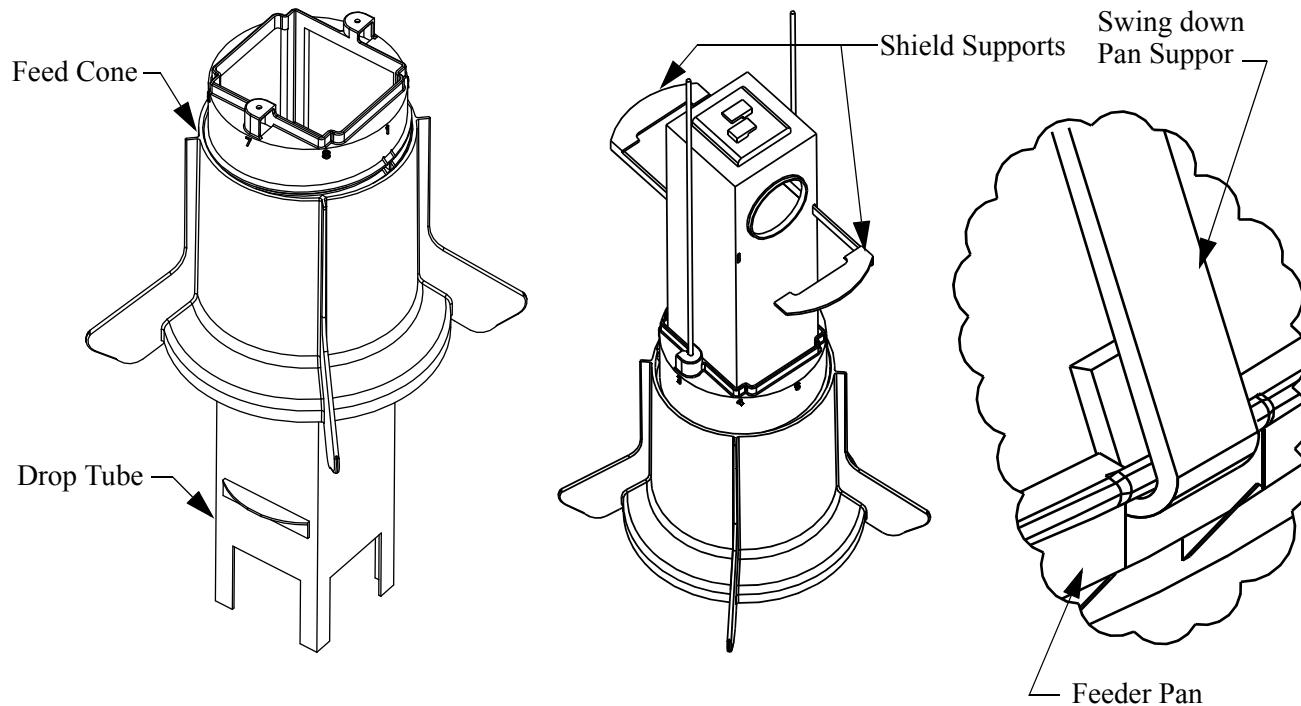

Figure 20.Drop Tube Installation
8. Insert the Drop Tube into the Feed Cone assembly, **See Figure 20.**